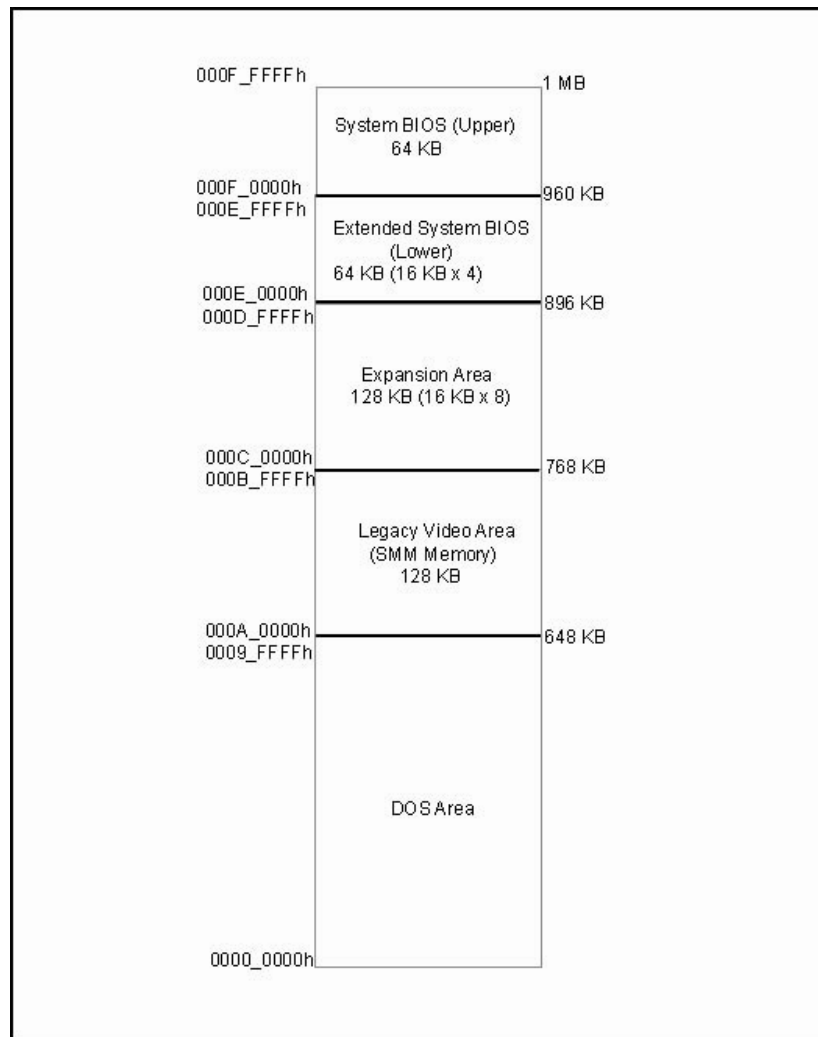

Figure 13
- (5)-3 If the Setup correctly recognizes the driver of the floppy disk, a controller menu (as Figure 13) will appear below. Use the ARROW keys to select **Intel(R) 82801IR/ IHO SATA RAID Controller** and press ENTER. Then it will begin to load the SATA driver from the floppy disk.